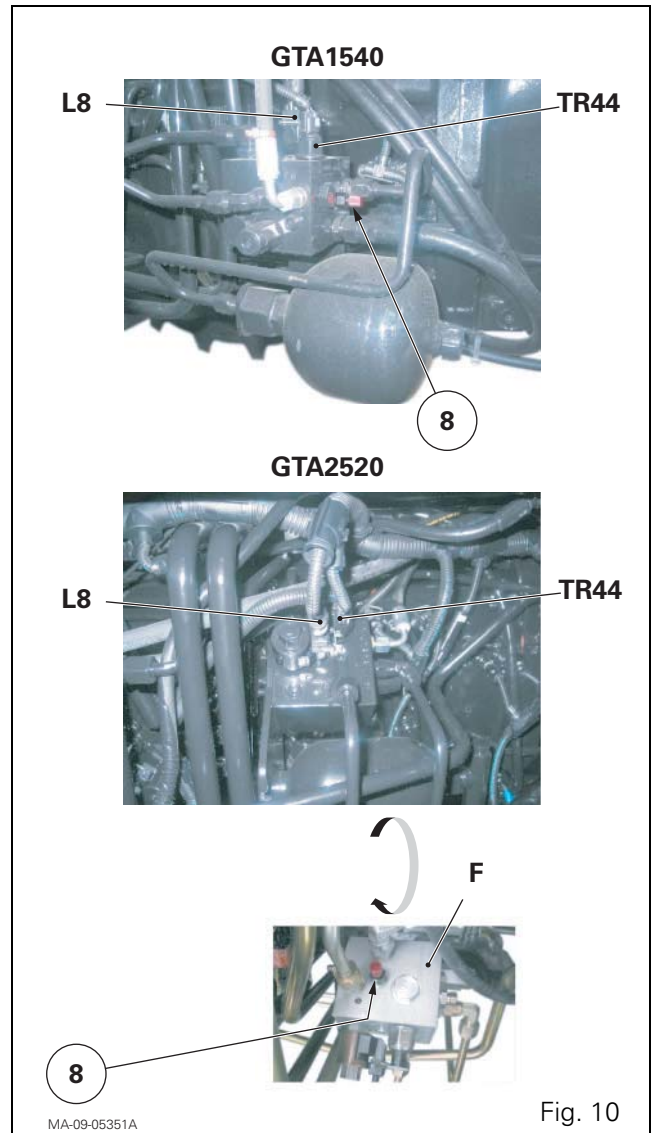

Fig. 10
3. Disconnect the following from the high-pressure braking unit (Fig. 10):
DANGER: Certain hydraulic connections for the high-pressure braking unit are under high pressure, even when the tractor's engine is stopped. As a result, before disconnecting one or more of these hydraulic connections, first release the pressure stored inside the accumulator. To do this, gradually unscrew the knurled section of the drain screw (8) (Fig. 10) (maximum slackening is approximately four turns) in order to release the high pressure stored inside the accumulator and the high-pressure braking unit.